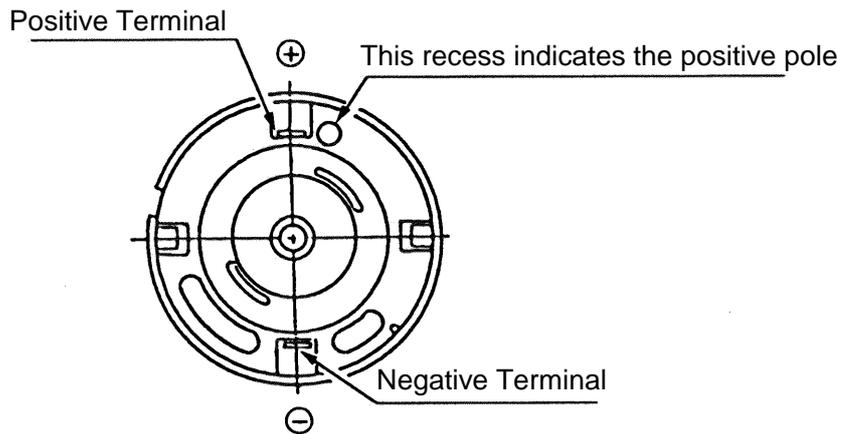

Fig. 5
- (5) Be very careful not to bend or otherwise damage the base portions of the internal wires of the FET which are connected to the DC-Speed Control Switch [43],
- (6) When soldering the Internal Wires (B) [24] [24] (Red) and [25] [25] (Black) onto the Motor [23] [23], be very careful to ensure correct Motor polarity. As illustrated in Fig. 5, there is a circular recessed mark close to the terminal which indicates the positive pole.